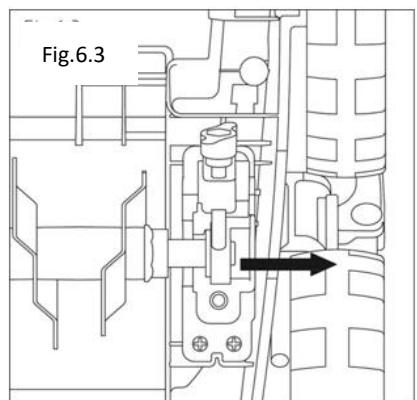

Fig.6.4
24. Use of scarifier roller (Fig.6.4)
- Pull the original blade system upwards to detach it from the machine housing (Fig. 6.4).